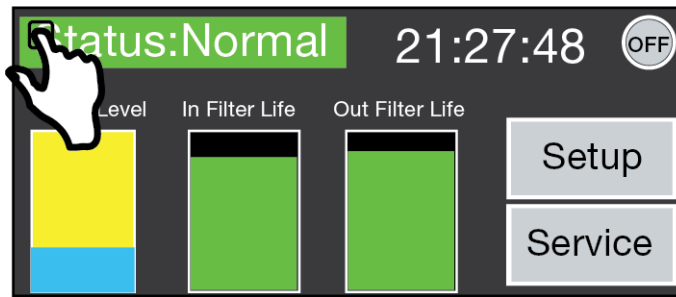

Figure 22. Accessing Maintenance Screen
1. Touch the upper left corner of the FCC display status bar and press it until the Maintenance screen appears (see Figure 22).